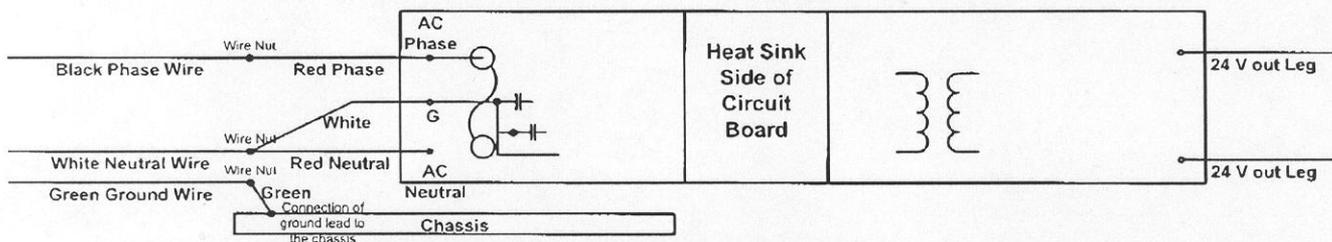

Figure 2 Completed Condition
12. Use a wire nut to reconnect the 2 loose wires (white and red) from the circuit board to the white neutral supply leg. The appearance of the wiring should now be as shown in figure 2 below.